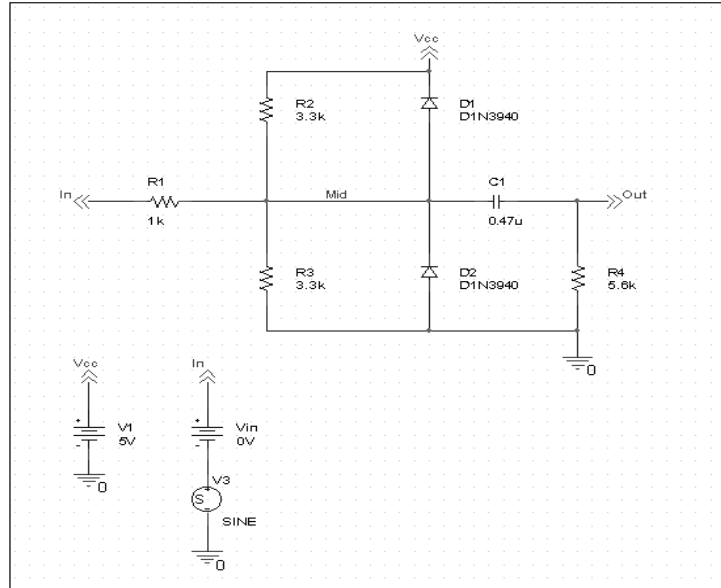

Figure 14 *Diode clipper circuit with a voltage stimulus.*
This example shows how to run a transient analysis on the clipper circuit. This requires adding a time-domain voltage stimulus as shown in Figure 14.
- 5 Place a VSTIM part (from the PSpice library SOURCESTM.OLB) as shown in Figure 14.
- 7 Place the ground part under the VSTIM part as shown in Figure 14.